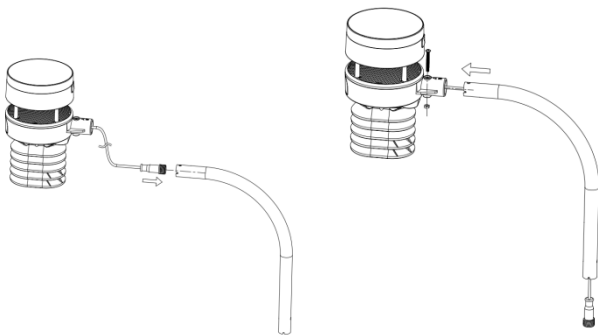

Figure 4: Sensor package mounting diagram 6-2
2. Pass the connector cord through the arm tube as Figure 4: